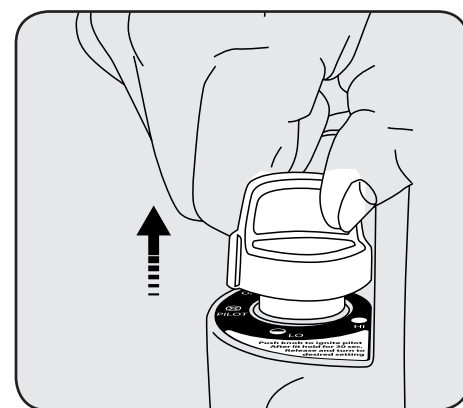

Figure 5
8. After lighting pilot, release knob. Knob should return to fully extended position. See Figure 5.
10. After left burner tile has turned bright orange, adjust heat output by turning Control Knob to desired position ("LO", "MD" or "HI"). Note: Both tiles turn orange only on HI setting. **(2) 1 LB. propane bottles are needed to use heater in (HI) position.**
3. After lighting pilot, release knob. Knob should return to fully extended position. See Figure 5.